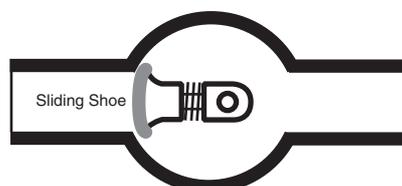

Fig. 3. Diagrammatic plan view of a shoe valve.
1. The *sliding shoe type* (Fig. 3) has a spring-loaded shoe that slides against the inside wall of a cylindrical valve chamber to shut off or open ports as required. The hardwearing, low friction shoe slides on a thin lubricating film of system fluid.